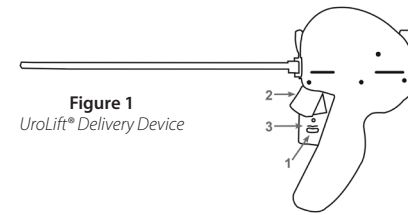

Figure 1
The UroLift Delivery Device (**Figure 1**) is designed to access the prostatic urethra and deliver one UroLift Implant through the lobe of the prostate.
1.7 Inspect device tip and confirm that needle is not visible. Inspect Needle Safety Lock (**Figure 1**) and confirm that it is in the locked (forward) position.